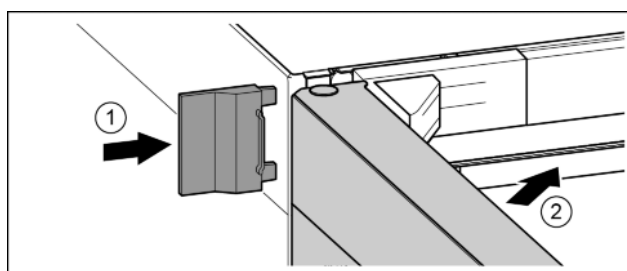

Fig. 26
- ▶ Slide on the external cover. *Fig. 26 (1)*
- ▶ Close the upper door. *Fig. 26 (2)*